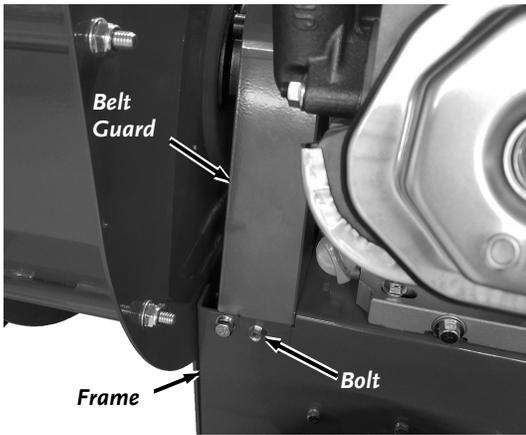

Figure 43
3. Remove the Bolts that Secure the Belt Guard to the Frame using a 3/8" wrench (**Figure 43**). Remove the Belt Guard.
18. Reinstall the Belt Guard to the Frame (**Figure 43**).